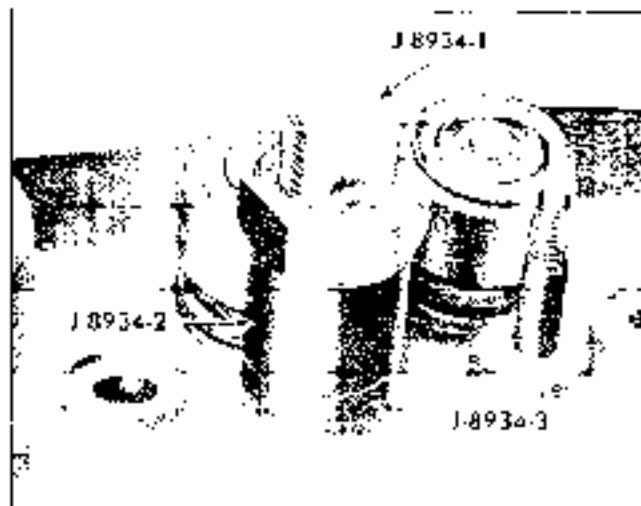

Fig. 6-88 Rocker Arm Stud Removal
8. Thread $7/8$ " standard nut on stud remover and turn nut until rocker arm stud is out of cylinder head (Fig. 6-88).